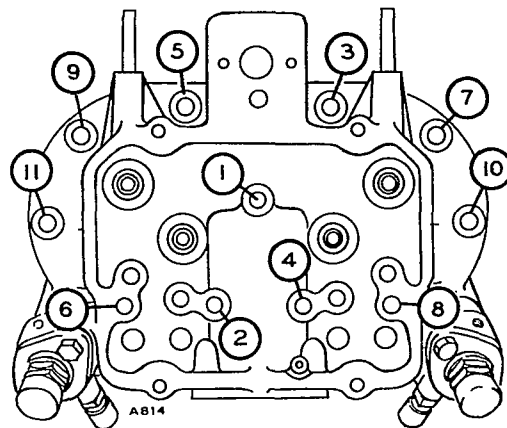

FIGURE 44. HEAD BOLT TORQUE SEQUENCE
5. Install head assembly and gasket to cylinder block. Tighten head bolts to 44 to 46 foot-pounds (60-62 N•m). Follow sequence in Figure 44 and Steps a. through c.
- c. Tighten cylinder head bolts in sequence shown in Figure 44 to 25-30 foot-pounds (34-41 N•m).